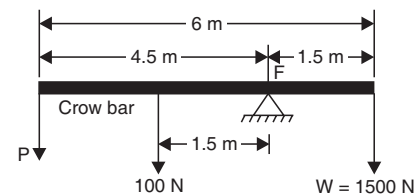

Fig. 3.53
**Sol.** Refer to Fig. 3.53. This is a lever of type 1 as the fulcrum lies between  $W$  and  $P$ .